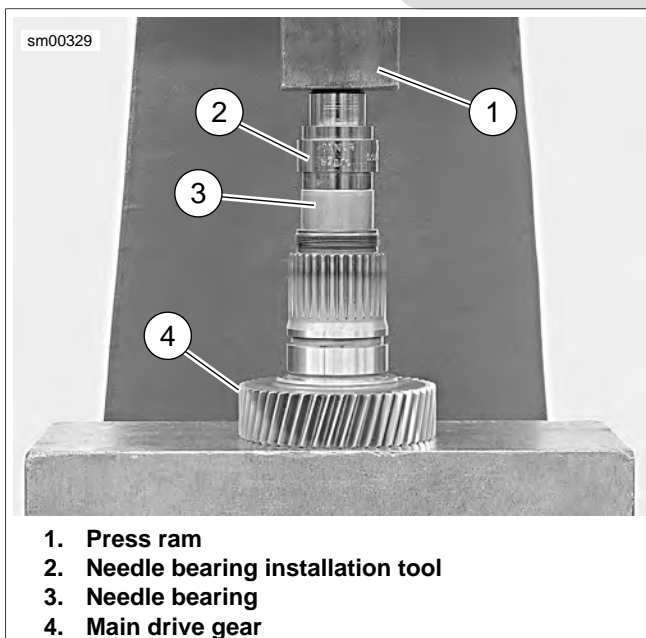

Figure 5-72. Pressing Outer Needle Bearing Assembly into Main Drive Gear
6. See Figure 5-72. Place main drive gear (4) on press bed with gear end facing down.
7. Place needle bearing (3) squarely into end of drive gear. Insert installation tool (2) with end stamped "OUTER" facing needle bearing.